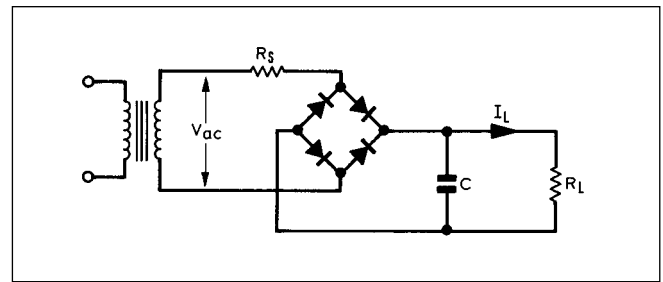
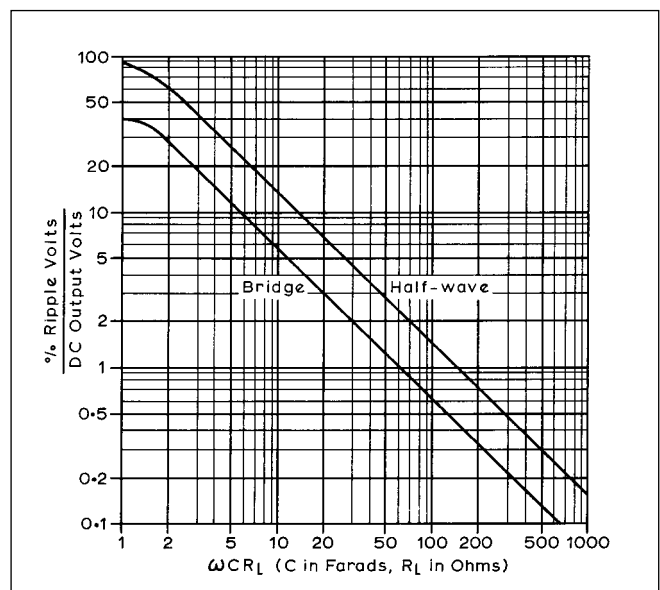

Fig 24.4: Bridge rectifier with capacitor input filter
Fig 24.9: Percentage ripple voltage (RMS) against values of ωCR_L ($\omega = 2\pi f$ where f is the mains supply frequency)
An example is the bridge rectifier of Fig 24.4 in which R_s is the effective resistance of the transformer (resistance of the secondary, plus the turns ratio times the primary resistance).
As the effective resistance of the transformer becomes a smaller and smaller fraction of the load resistance, R_L , the peak rectifier current increases (see Figs 24.7 and 24.8). With increasing C (Fig 24.4) the peak rectifier current increases and the ripple current decreases (Fig 24.9). The efficiency also decreases, meaning more transformer and diode heating. A simple idea to avoid destroying the diodes by excessive current, is to limit the maximum peak current by adding a series resistor to augment the R_s of Fig 24.4. The minimum value of R_s is given by
- 7 Fig 24.9 gives the ripple as about 0.6% .